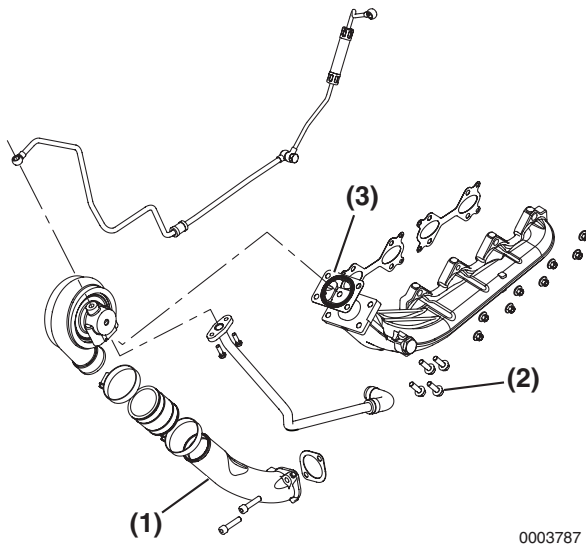

Figure 9-5
2. Apply a light coating of copper anti-seize to turbocharger bolts (**Figure 9-5, (2)**).
3. Install turbocharger with a new gasket (**Figure 9-5, (3)**). Tighten bolts to 23 N·m (204 in.-lb).
4. Connect charge air pipe (**Figure 9-5, (1)**) and tighten clamps securely.